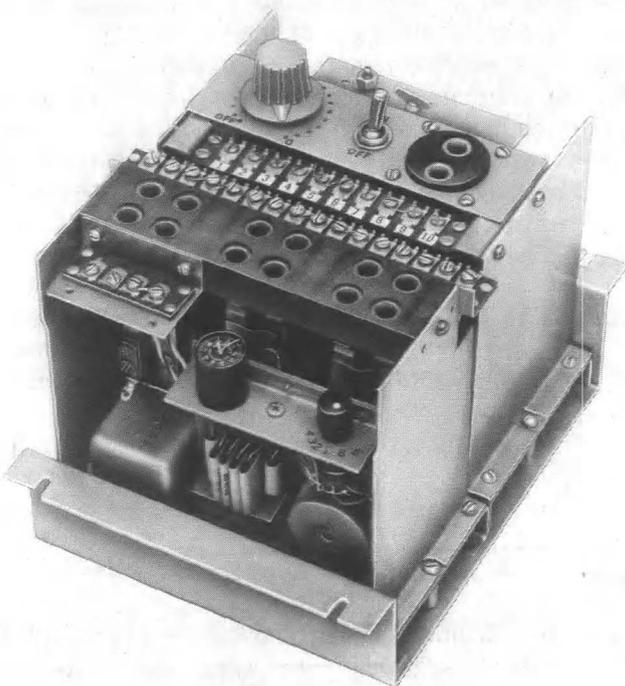

Fig. 2—KS-20159 Equalizer-Amplifier Without Cover
2.02 Figure 2 shows the KS-20159 equalizer-amplifier without cover. Three of these equalizer-amplifiers can be mounted on a 23-inch rack without power supply assemblies.